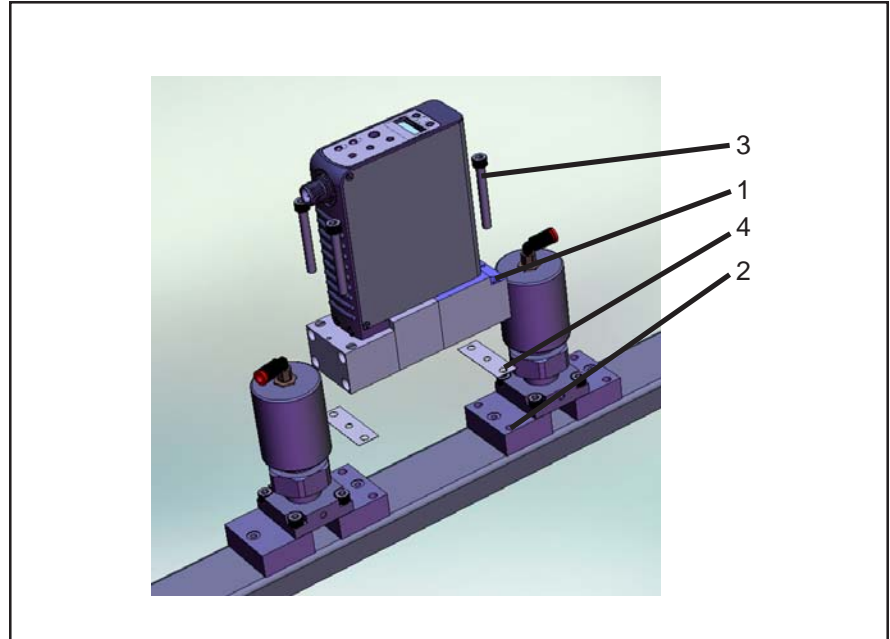

Figure 2-4 GF 100 Series Mounted to K1 Series Substrate Blocks
1. Refer to Figure 2-4. If downported fittings (1) are used, the GF100 Series is mounted to K1 Series substrate blocks (2) with four screws (3). Metal C-seals or W-seals (4) (as provided by integrator) are inserted between the GF100 Series and substrate blocks before the screws are installed. These metal seals must be replaced after each installation.
3. Refer to Figure 2-4. Insert the two mounting seals (4) over the gas flow path of the K1 block. Carefully align the GF100 Series mounting holes